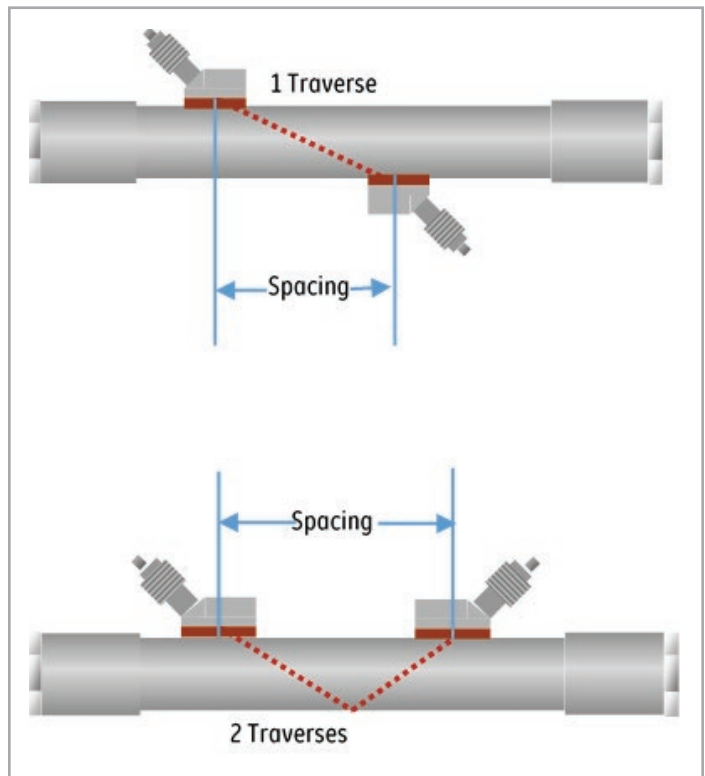

Figure 74: Spacing
3. The [Spacing] shows the value calculated by the XMT1000 for the correct distance between the upstream and downstream transducers, based on your programmed transducer, fluid and pipe data. This is the physical spacing value that should be used when installing your transducer clamping fixture on the pipe (see Figure 74). When exiting from the [Channel x] menu, the meter will display a message indicating that the Physical spacing of the transducers need to be adjusted to the value calculated by the XMT1000.